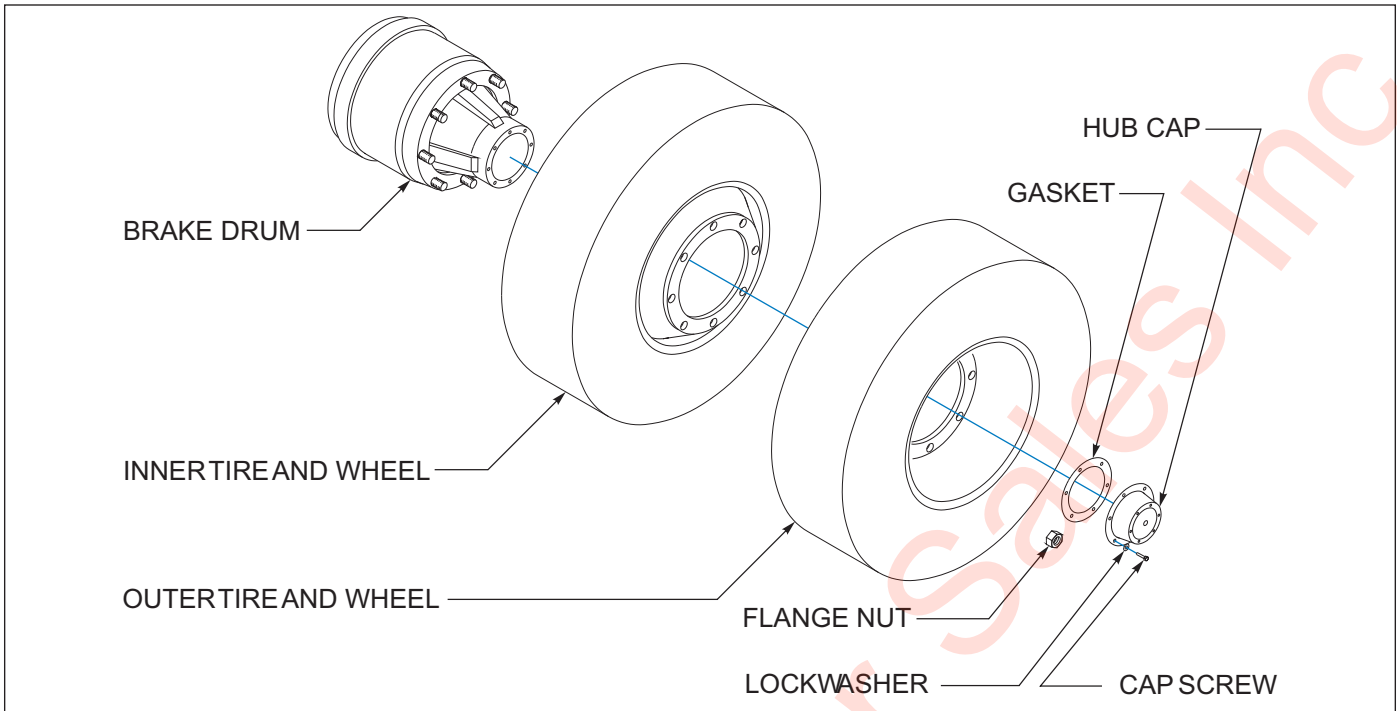

Figure 5-37: Tire and Wheel Mounting
1. Make sure that all mounting surfaces are clean and free of rust, dirt or paint. A wire brush may be used to clean these surfaces. *See Figure 5-37.*